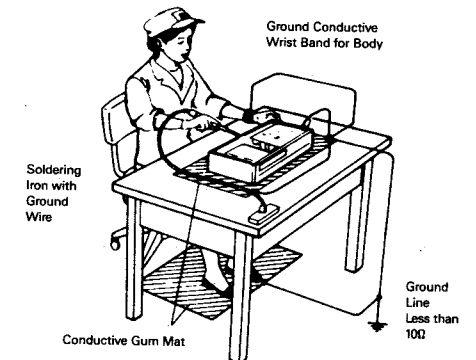

Figure 4
1. Remove the CD mechanism assembly by referring to Exploded View. (See Figure 4).